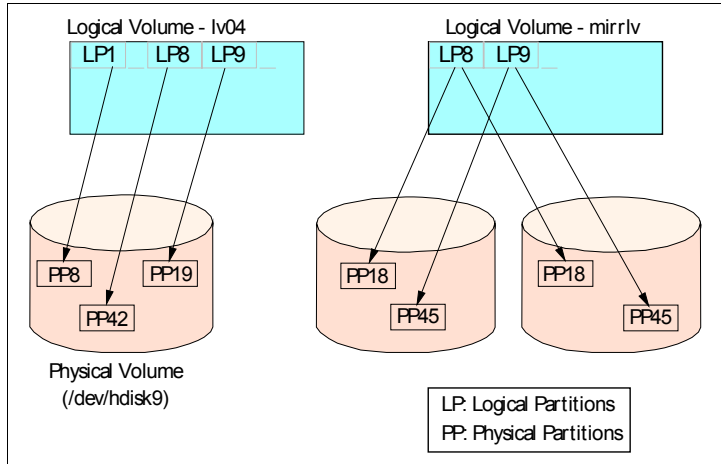

Figure 2-20 Relationships between LPs and PPs
- ▶ Every physical volume in use belongs to a volume group (VG) unless it is being used as a raw storage device.
- ▶ Each logical volume consists of one or more logical partitions (LPs). Each logical partition corresponds to at least one physical partition (see Figure 2-20). If mirroring is specified for the logical volume, additional physical partitions are allocated to store the additional copies of each logical partition.